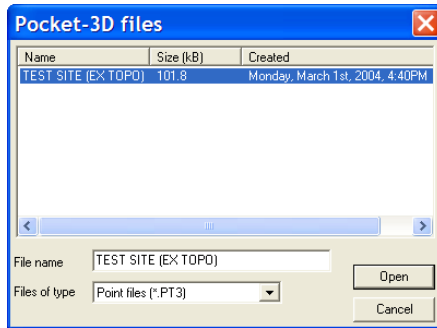

Figure 3-7. Select File and Click Open
2. On the **Pocket-3D files** dialog box, select the file type (*.pt3) and the desired file, then click **Open** (Figure 3-7).